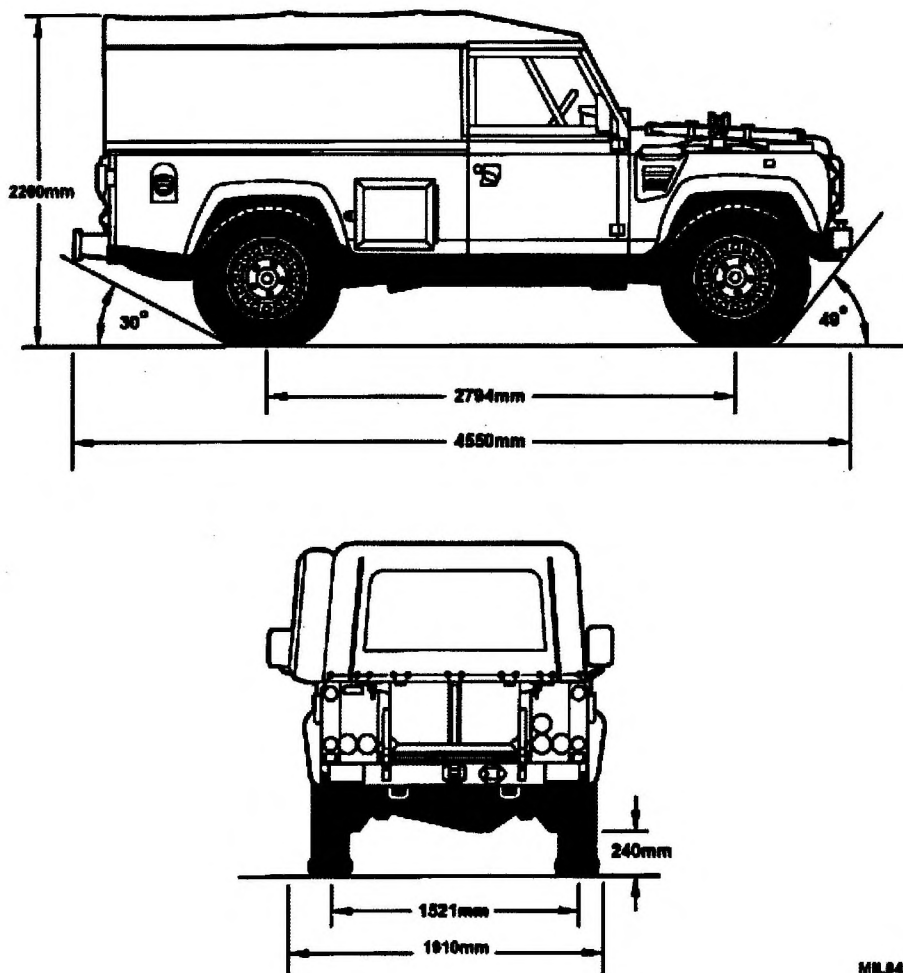

Fig 2 Truck Utility Medium (TUM) dimensions
6.2 Table 3 and Fig 2 identify the dimensions for the Truck Utility Medium (TUM).